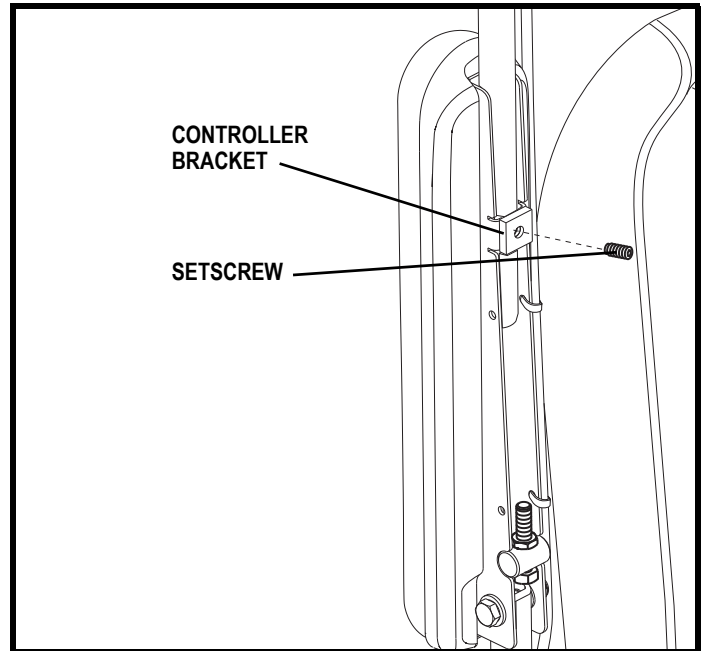

Figure 11. Underside of Armrest
2. Loosen the setscrew on the controller bracket, if equipped. **See figure 11.**